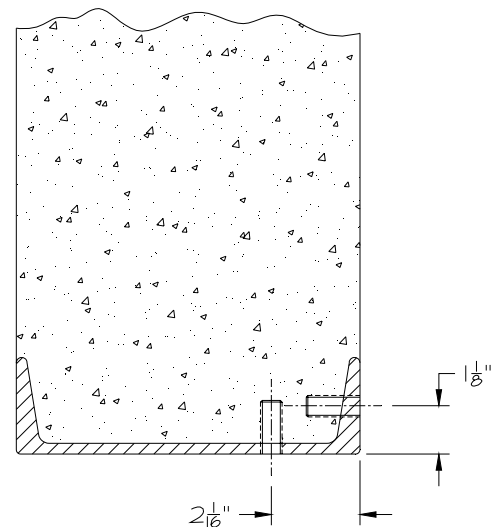

FIG. 17
- * **Measure and mark 2-1/16"** from corner plumb line to inside the jamb and 1-1/8" from corner plumb line to face of frame at 4-7/8" mark. Mark sure marks are square to the plumb line (Figure 17).
- * **Measure and mark 2-1/16"** from corner plumb line to inside the jamb and 1-1/8" from corner plumb line to face of frame at 9-3/8" mark. Make sure marks are square to the plumb line (Figure 17).